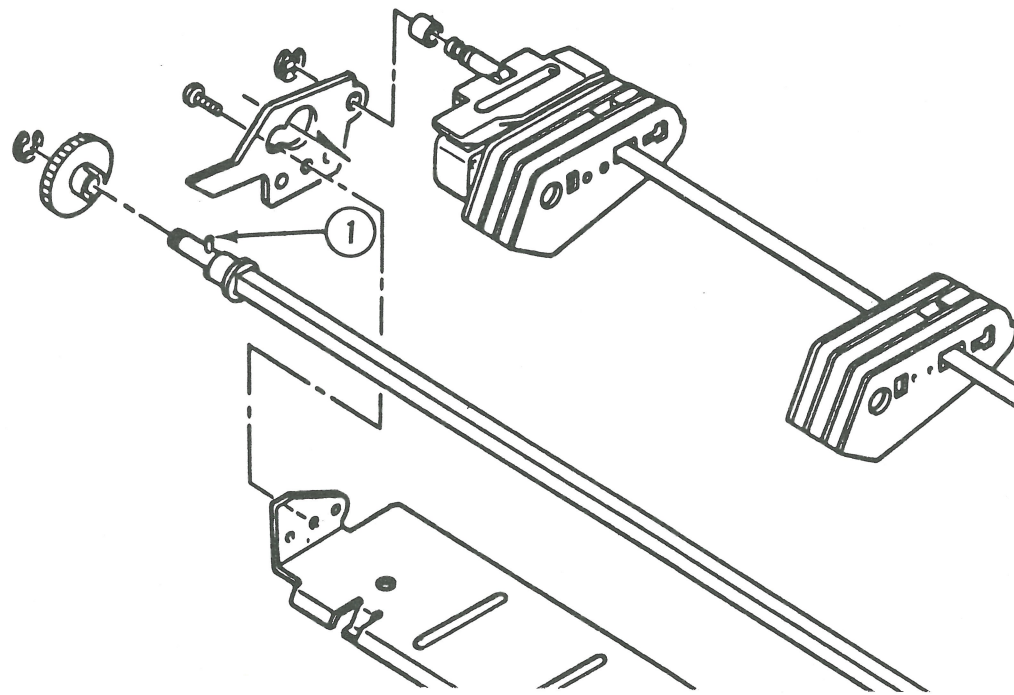

FIGURE 6
2. Clean the parts identified (Figure 6, #1) by wiping off any old oil and dirt with a lint-free cloth.
3. Lubricate each lubrication point identified (Figure 6, #1) with a coating of Molykote BR2-S.